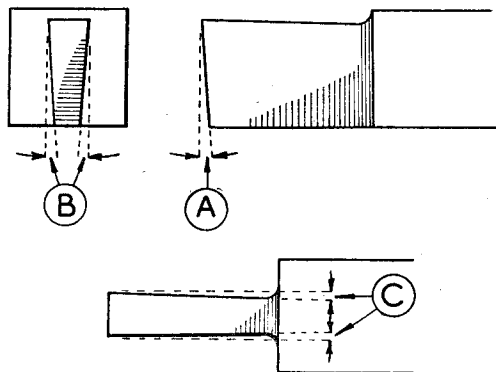

Fig. 1. The formation of a small parting tool
Although many workers are content to grind tools by the free-hand method and to estimate by eye the angles formed, this practice, when followed by those of limited experience and skill, will inevitably lead to faulty grinding and inefficient performance on the part of the tool. Consider for a moment the question of grinding correctly a small parting tool of the form shown in Fig. 1. Although there should be little difficulty in grinding the front clearance angle (A) correctly, this is not so when the side clearances (B) have to